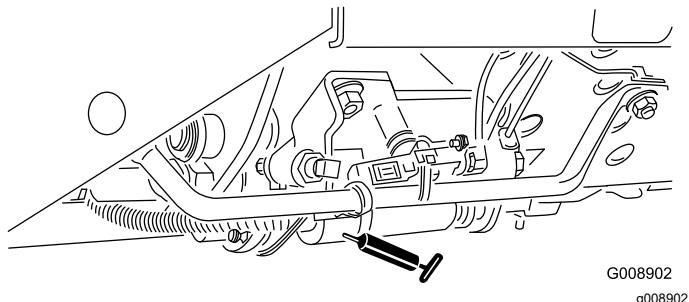

Figure 50
- Mow/transport slide (Figure 50)